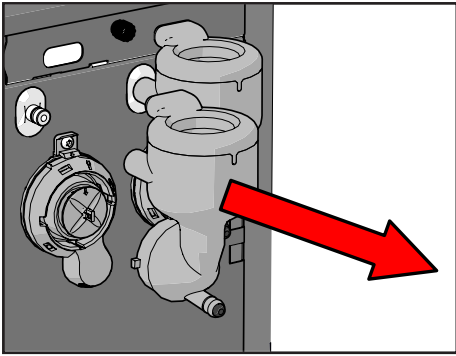

Figure 37.
9. Pull the mixer house and the suction ring forward so they detach from the mixer plate. (see Figure 37).